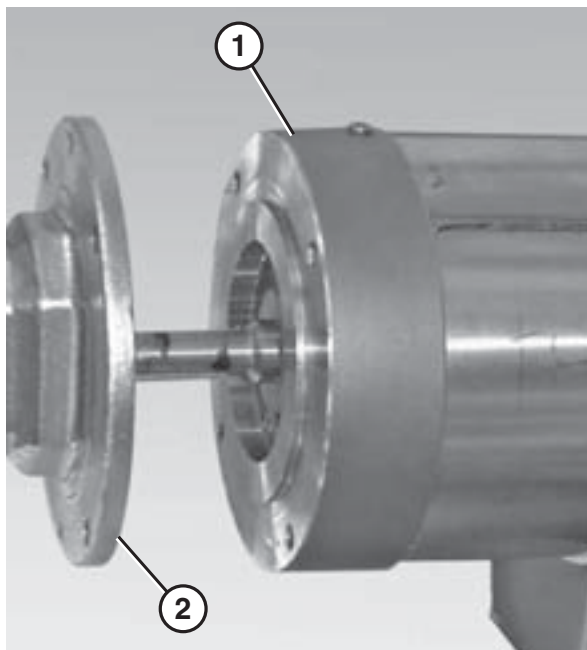

Figure 17
1. Attach the motor (Figure 17, item 1) to the gear reducer (Figure 17, item 2).